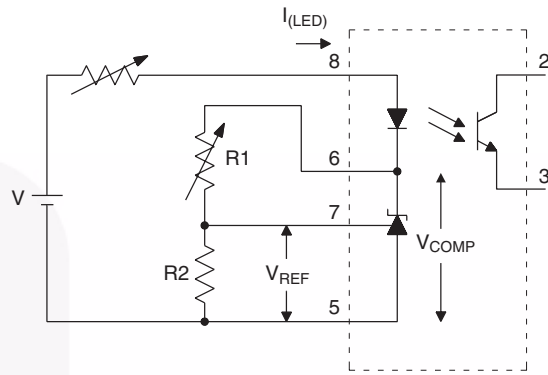

Figure 2.  $\Delta V_{REF}/\Delta V_{COMP}$  Test Circuit
- The dynamic impedance is defined as  $|Z_{OUT}| = \Delta V_{COMP}/\Delta I_{LED}$ . When the device is operating with two external resistors (see Figure 2), the total dynamic impedance of the circuit is given by: